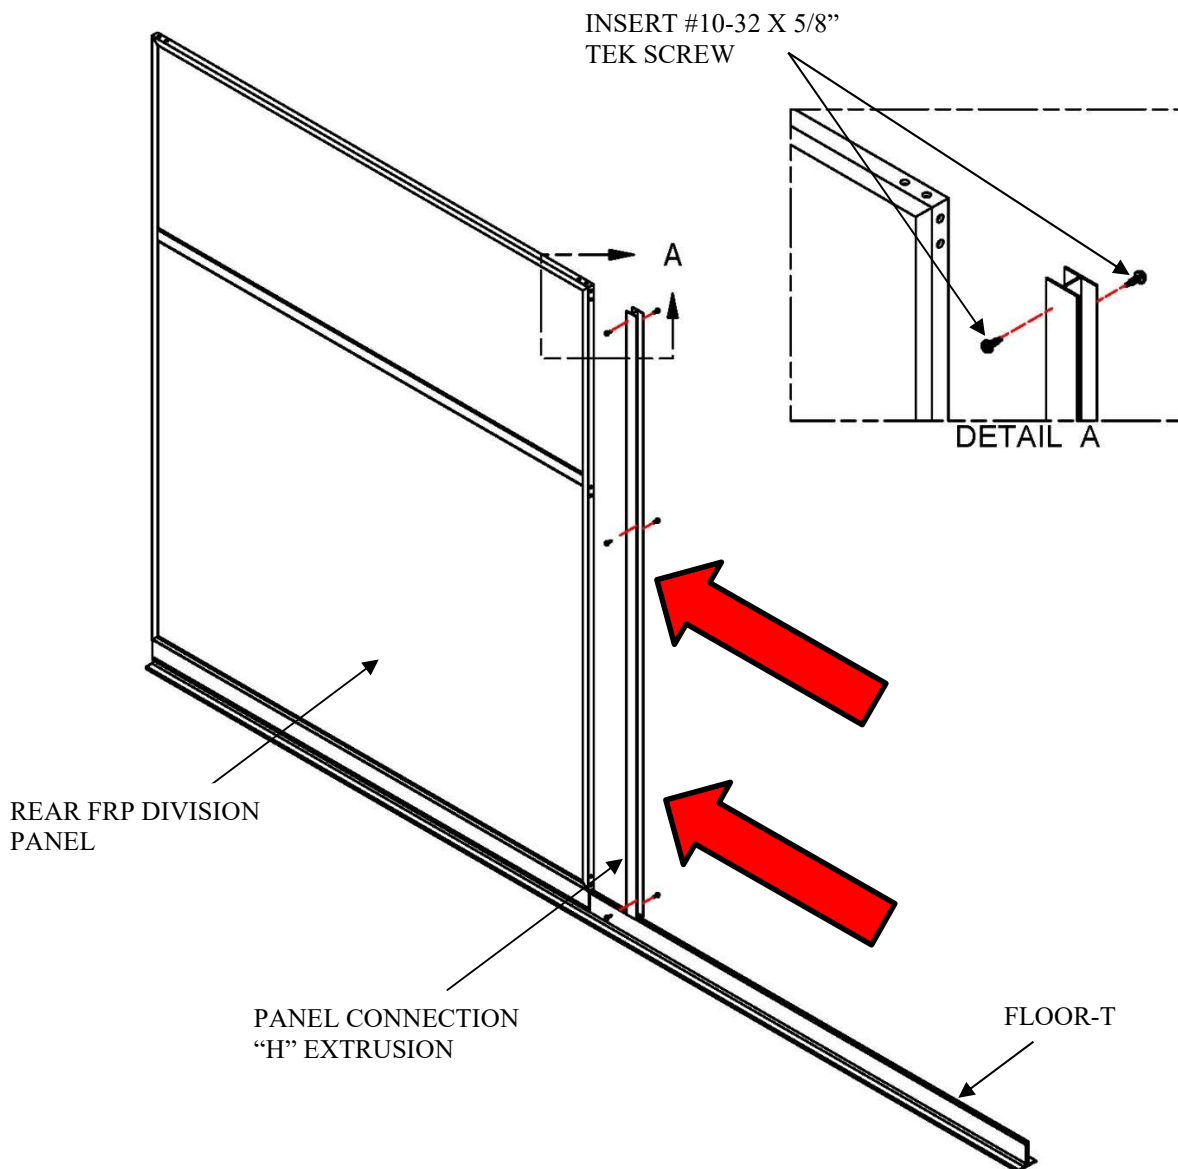

Figure 3A
3. Using six of the #10-32 x 5/8" TEK screws provided, secure Panel connection H extrusion to the rear panels. (Three screws should be used for each side of the panel, one each in the top middle and bottom). See Figure 3A.